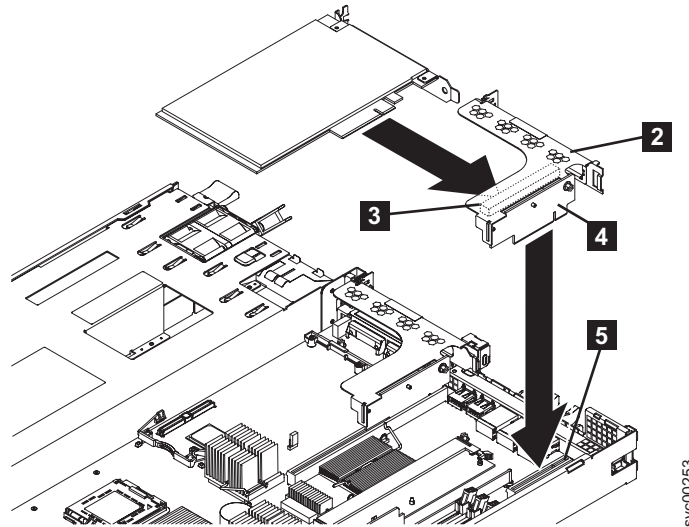

Figure 147. Replacing the riser-card assembly for the SAN Volume Controller 2145-8G4
1. As you start inserting the adapter, align the edge connector on the low-profile adapter **1** with the connector **3** on the riser-card assembly **4**. Make sure that the adapter snaps into the riser-card securely. Press the riser-card edge connector firmly into the system-board connector. **5**, as shown in Figure 147 on page 163.